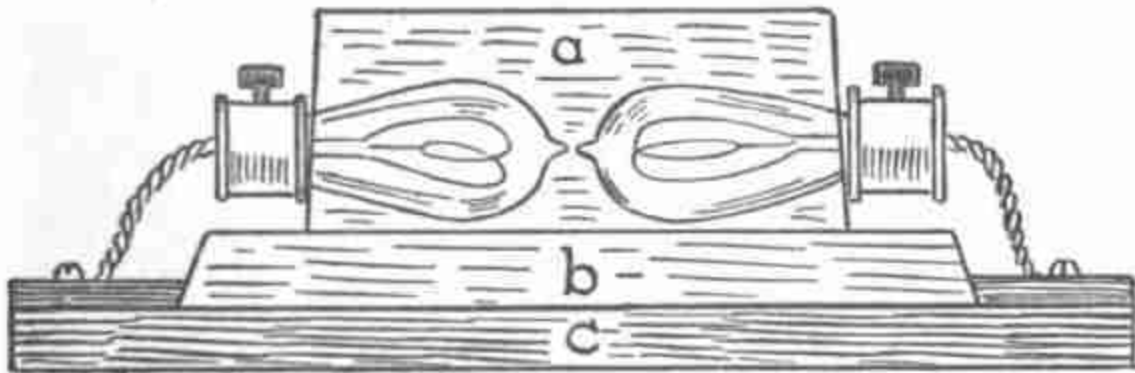
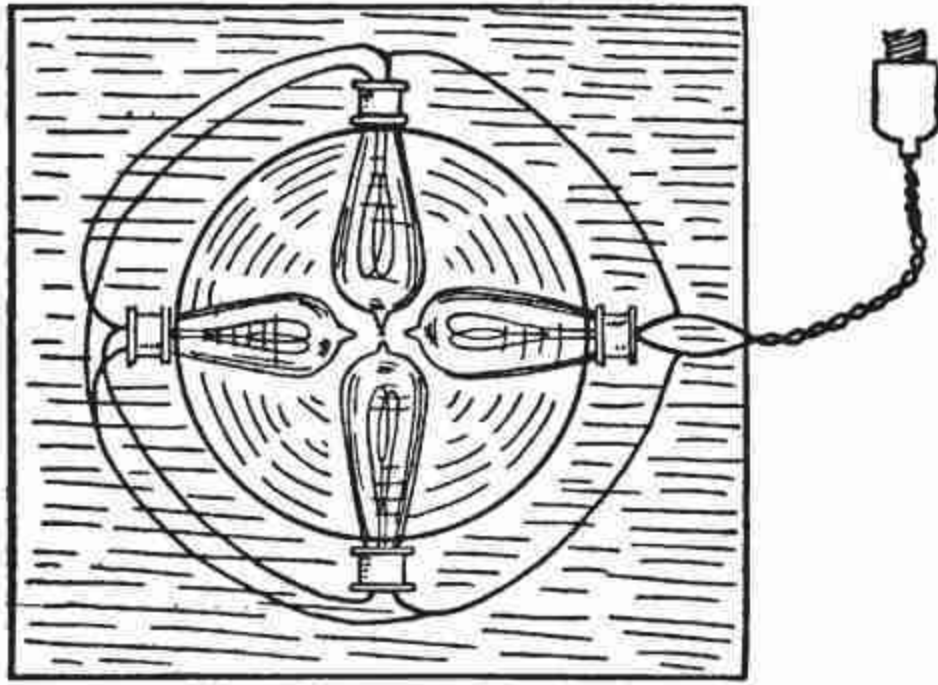
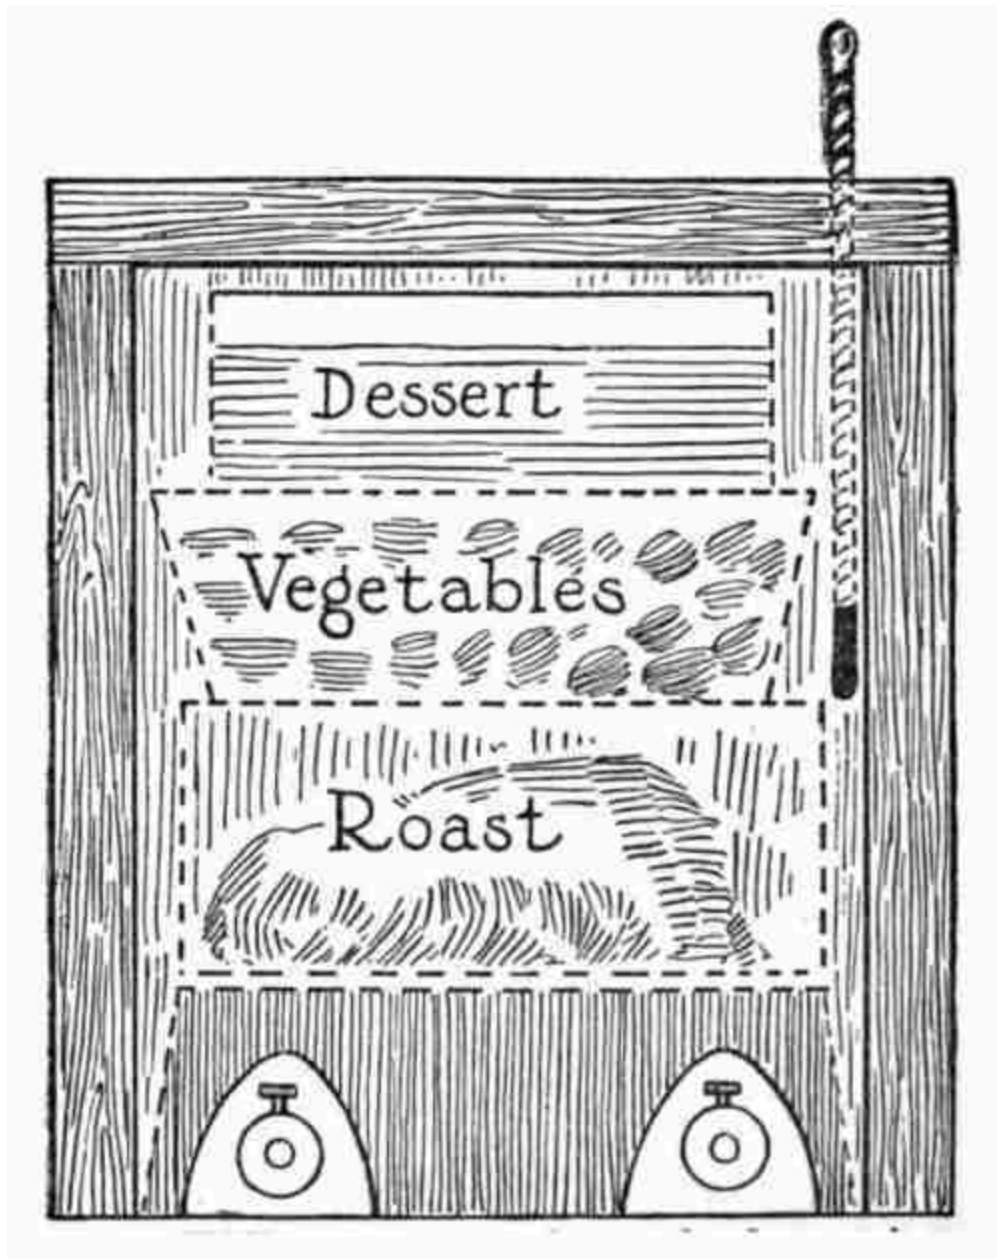

Fig. 89
Fig. 90
Fig. 91
20. *Cooking with Incandescent Lamps.*—This piece of apparatus was devised by the boys and used in my laboratory. A sheet iron basin *a*, was inverted over four 16-candle-power incandescent lamps, shown in elevation by Fig. 89, and shown in plan by Fig. 90. The sides of the basin were cut so as to admit the glass globes of the lamps, but the sockets and keys were outside, so that it was convenient to turn on and off the lamps separately, thus using one half to two amperes of current, as desired. This rested upon another basin, *b*. Basin *b* was covered with asbestos for the lamps to lie on
We procured a cylinder of magnesia such as is used for covering large steam-pipes. This was inverted over our electric stove which was illustrated in Fig. 89. The magnesia was cut at the bottom, so as to give access to the key sockets of the lamps, (Fig. 91). First upon the electric stove was placed a covered dish containing a roast of lamb. Above this was another dish containing a vegetable, and upon the top of that was a pudding. A flat piece of magnesia was used as a cover to the whole. Through a hole in this was suspended a thermometer.